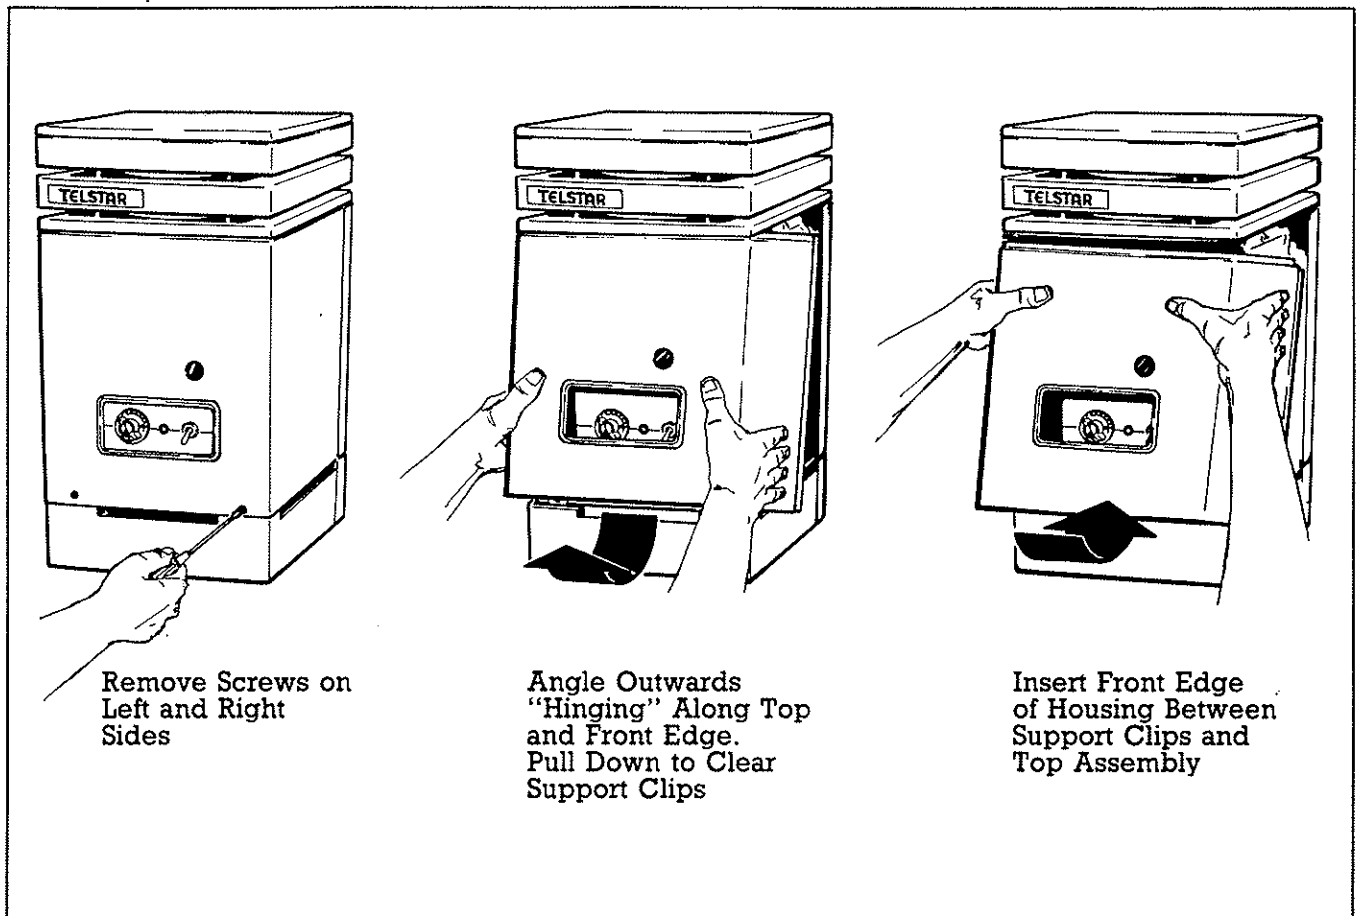

Figure 11. Housing Removal and Replacement
1. Remove the two screws located on the bottom of the heater housing (see Fig. 11).